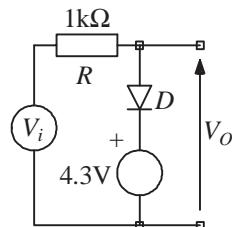

Figure 2
- Q2** For the circuit of figure 2, sketch the waveshape that you would expect to observe if V_i was a triangular waveshape with a peak value of 10V (ie, a positive peak of 10V and a negative peak of -10V) and the diode had a forward voltage drop of 0.7V.